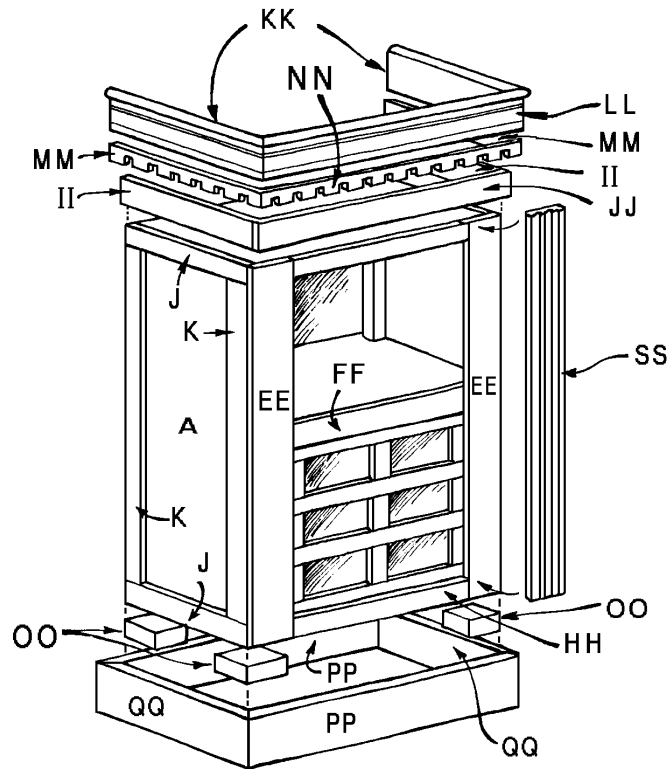

Figure 16
1. Cut two Vertical Front Trim pieces (EE) from 1 x 8 pine, each measuring 6 feet long.
2. Attach them on either side of the front of the armoire, over the edges of the Side Trim pieces (J and K), as shown in *Figure 16*.
3. Cut one 35-inch-long Shelf Trim piece (FF) from 1 x 4 pine.
4. Fit the Shelf Trim piece (FF) between the two Vertical Front Trim pieces (EE) so that it covers the exposed edge of the Inner Shelf (I) and the Front Horizontal Support (F) below, and the Top Housing (L). It should be absolutely flush with the top surface of the shelf. Glue and screw it in place using 2-1/4" screws.
5. Cut one Top Trim piece (GG) from 1 x 4 pine, 35 inches long. Rip it lengthwise so that it measures 2-1/2-inches wide.
6. Fit the Top Trim piece (GG) between the two Vertical Front Trim pieces (EE) so that it covers the exposed edge of the Top (G) and the Front Horizontal Support (F) above the Top (G). Make sure that it is absolutely flush with the bottom surface of the Top (G). Glue and
1. Cut two Top Side Trim pieces (II) from 1 x 4 pine, each 25-1/2 inches long.
2. Glue and screw the Top Side Trim pieces (II) to the top and sides of the armoire, as shown in *Figure 16*, overlapping the Horizontal Side Trim pieces (J) by 1 inch. Use 2-1/4"-long screws spaced about 8 inches apart to attach all of the trim pieces to the armoire.
3. Cut one Top Front Trim piece (JJ) from 1 x 4 pine, 51 inches long.
4. Glue and screw the Top Front Trim piece (JJ) to the top front of the armoire, as shown in *Figure 16*, overlapping the Top Trim piece (GG) by 1 inch, and covering the exposed edges of the two Top Side Trim pieces (II).
5. Cut two Side Molding pieces (KK) from 3-1/2-inch-wide decorative molding, each measuring 26-3/4 inches.
6. Cut one Front Molding piece (LL) from 3-1/2-inch-wide decorative molding, 52-1/2 inches.
7. With each piece standing on edge, miter both ends of the Front Molding piece (LL) and one end of each of the two Side Molding pieces (KK) at a 45-degree angle.
8. Glue and nail the three mitered molding pieces to the top of the armoire, as shown in *Figure 16*, overlapping the Top Front Trim (JJ) and the Top Side Trim (II) by 1 inch.
9. Cut two Side Box Trim pieces (MM) from box molding each 26-1/4 inches long.
10. Glue and nail the Side Box Trim pieces (MM) to the top sides of the armoire, just under the Side Molding pieces (KK), as shown in *Figure 16*.
11. Cut one Front Box Trim piece (NN) from 1 x 4 pine, 52 inches long.
12. Glue and nail the Front Box Trim piece (NN) to the top front of the armoire, as shown in *Figure 16*, just under the Front Molding piece (LL). The front box trim should cover the exposed ends of the two side box trim pieces (MM).
1. Cut four Corner Blocks (OO) from 2 x 8 pine, each 6 inches square.
2. Position them flush with the outermost corners of the bottom of the armoire. Then, using glue and 3-1/2"-long screws, screw through the blocks into the 2 x 2 horizontal supports and the 1 x 4 trim pieces at the bottom of the armoire, as shown in *Figure 16*.
3. Cut two Front and Back Base pieces (PP), each measuring 52-1/2 inches.
4. Stand each front/back base piece (PP) on edge, and miter the ends at a 45-degree angle, and glue and screw them in place, overlapping the bottom of the armoire by 1 inch. Screw them securely both to the bottom of the armoire and to the corner blocks.
5. Cut two Side Base pieces (QQ) from 2 x 8 pine each measuring 26-1/4 inches.
6. Standing the side base pieces (QQ) on edge, miter each end at a 45-degree angle. Glue and screw the side base pieces (QQ) in place, overlapping the bottom of the armoire by 1 inch, and matching the miters on the Front and Back Base pieces (PP). Screw them securely to
1. Measure your completed armoire to be certain before cutting the fluted trim for the front sides of the armoire, as the trim should be cut exactly to fit. Then cut two Fluted Trim pieces (SS) from 3-1/2" fluted molding each 70 inches long (plus or minus depending upon your measurements.)
2. Attach the Fluted Trim pieces (SS) to the front sides of the armoire, directly over the two Vertical Front Trim pieces (EE), as shown in *Figure 16*. Attach them with glue and small finishing nails, countersinking the nails.